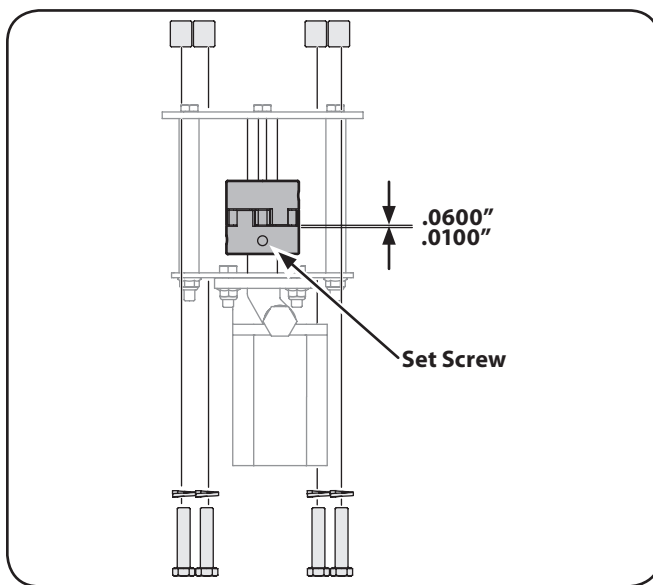

Figure 7-1
1. Remove the three nuts that secure the pump to the coupling shield. Two nuts are at the bottom corners and one is in the top center. See Fig. 7-1.
10. Set .0100" to .0600" of a clearance/gap between the nylon "spider" and the engine coupling half by sliding a feeler gauge or matchbook cover between the nylon "spider" and the engine coupling half and moving the pump coupling half as needed. Secure the pump coupling half with the set screw. See Fig. 7-1.